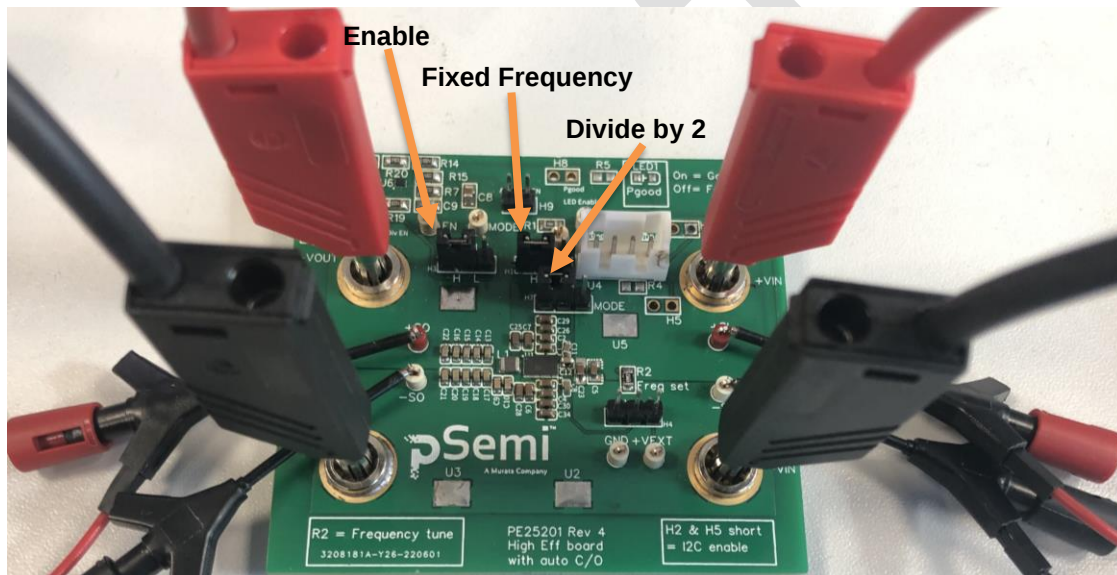

Figure 6. Configuration Jumpers Position.
1. Before powering up the EVK, H1 and H3 PCB header must be set. Figure 6 is used as an example, H2 in fixed frequency mode, H1 in enable position and H3 in divide by 2 mode. (Not extra functions are being implemented).